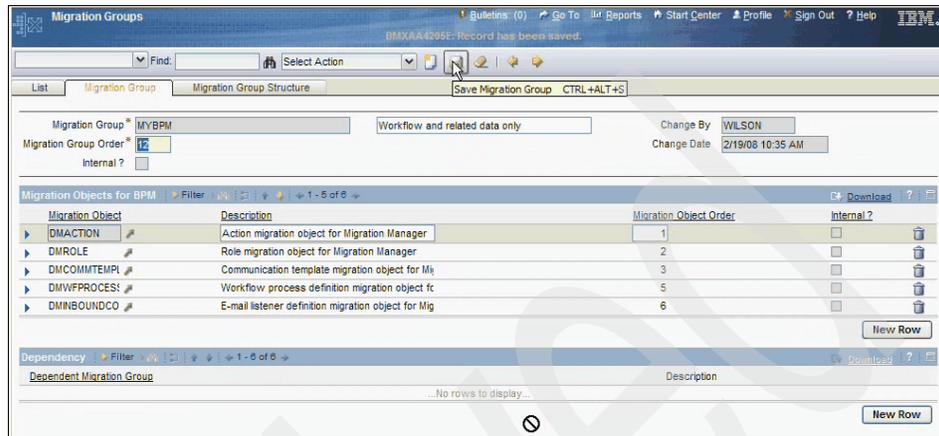

Figure 8-18 MYBPM migration group
- Save the new MYBPM migration group by clicking the **Save** button (the little disk) in the button bar in your window. The MYBPM migration group should now look like the group shown in Figure 8-18.